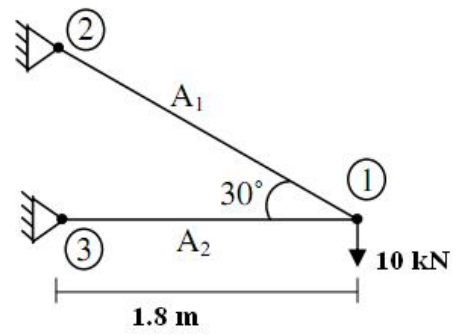

Figure 2
Q.4 Using displacement method, design statically determinate pin jointed truss shown in Figure 2. Adopt $E = 2 \times 10^5 \text{ MPa}$, (comp.) = 0.12 kN/mm^2 , (ten.) = 0.18 kN/mm^2 , δ at 1 = 5 mm **14**